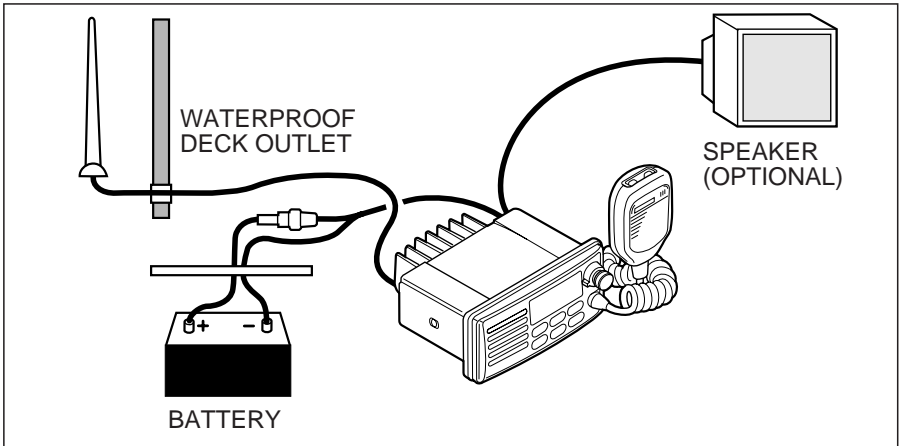

Figure 3. General Installation
- b. Connect the red power cord to a 13.8 VDC \pm 20 % power source. Connect the black power cord to negative ground. See Figure 3 for this step .